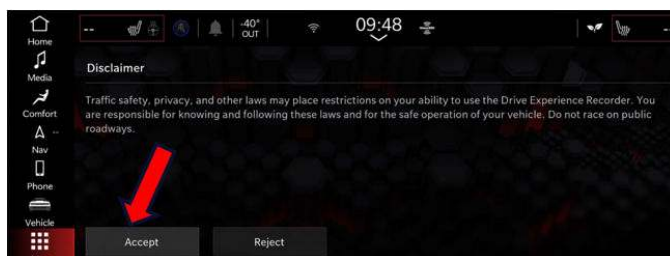

Fig. 3
- If the disclaimer pops up, accept it Fig. 3.